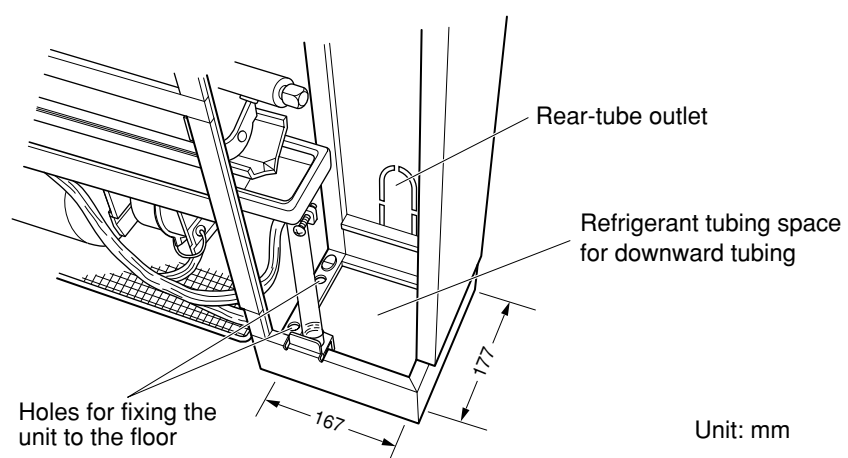

Fig. 3-127
- When a downward tube is required, refer to the opening dimensions shown in Fig. 3-127.